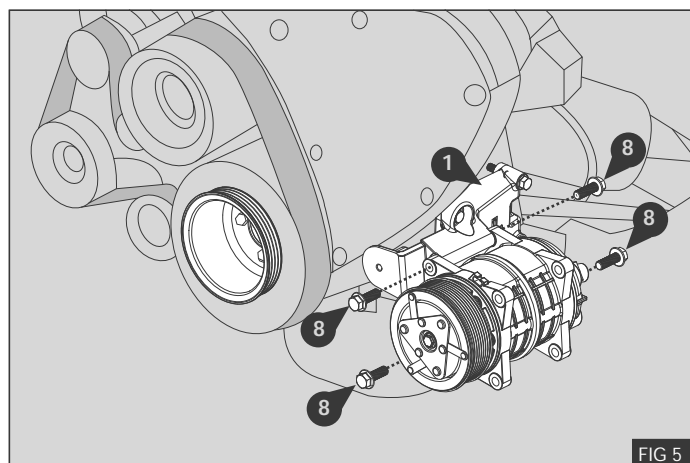

FIG 5
3. Fit compressor to mount bracket ① using bolts ⑧ - Fig 5
4. Torque bolts ⑧ to 84Nm / 62lb.ft - Fig 5.